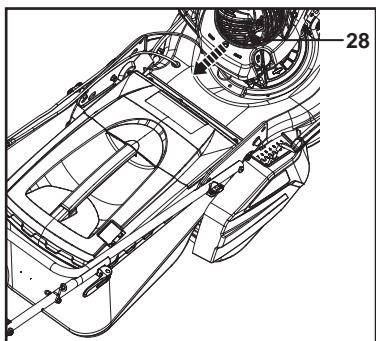

Fig. 13
2. Pull the recoil starter handle (28) lightly until you feel resistance then pull it rapidly. Do it repeatedly until the engine starts (Fig. 13).